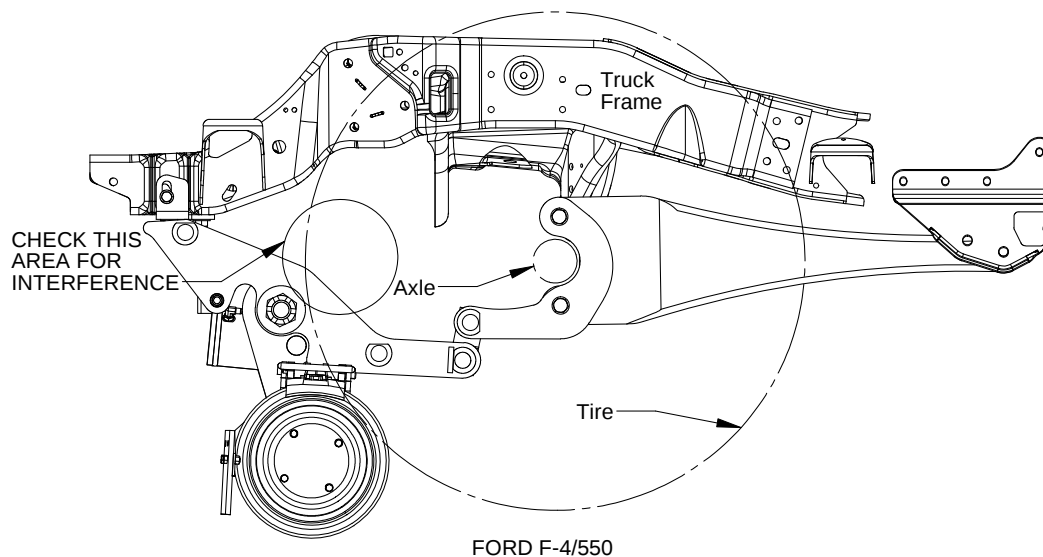

Figure 4.5.2.B Ford F-4/550 Clearance Envelope
1. Check for truck frame, spring, steering gear or other truck component interference with the Railgear, particularly the long arms. See CLEARANCE NOTE and Figure 4.5.2.B.